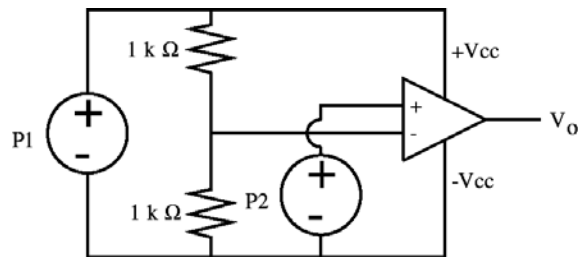

Figure 9: Operational amplifier comparator circuit
- 2) Assemble the circuit in Figure 9 using the voltage divider op-amp power supply you used in the previous sections.